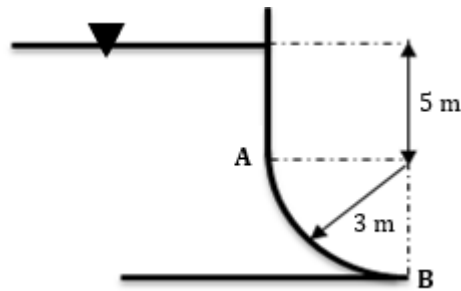

Figure 13
13. Determine the resultant force acting on the curved gate AB shown in figure 13. Length of the gate is 2 m. (Ans: 384462.244 N)